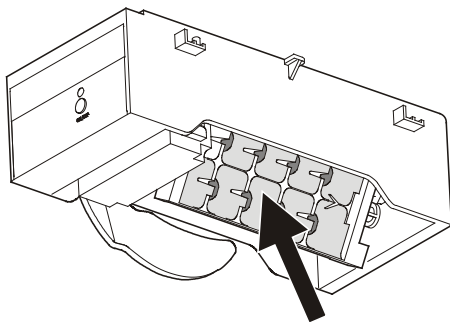

Figure 22
- After this the Ice Maker tray (**Figure 22**) must be emptied. Refer to chapter "Ice Maker at vacations".
In case of longer vacations, the ice maker tray (arrow in **Figure 22**) should be emptied.
- Touch the **IceMaker** icon so the **IceMaker LED** comes on (**Figure 22**).